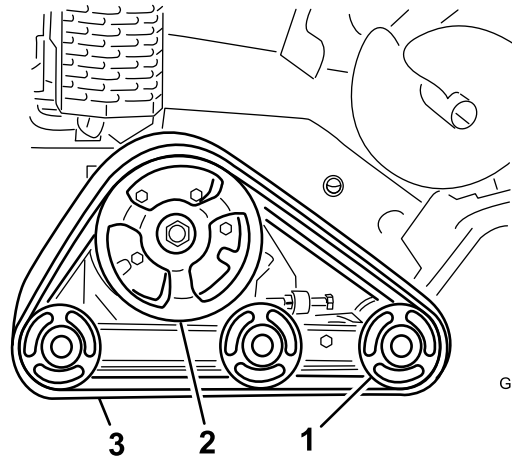

Figure 44
**Important:** Ensure that you fully clean the road wheels and the drive sprocket (Figure 44). The road wheels should rotate freely when clean.